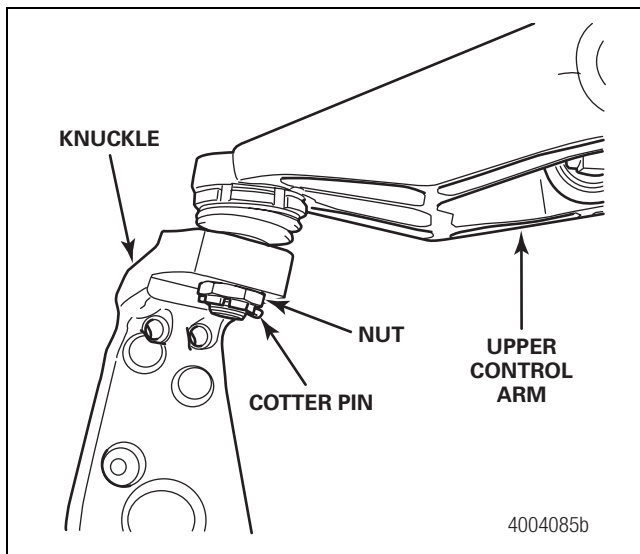

Figure 7.12
3. Install the nut that secures the upper control arm ball joint to the knuckle. Tighten the nut to 553-590 lb-ft (750-800 N•m). Continue to tighten the nut to align the nut slot with the cotter pin hole. Do not back off the nut to align the nut slot with the cotter pin hole. Install the cotter pin into the nut. Figure 7.12.